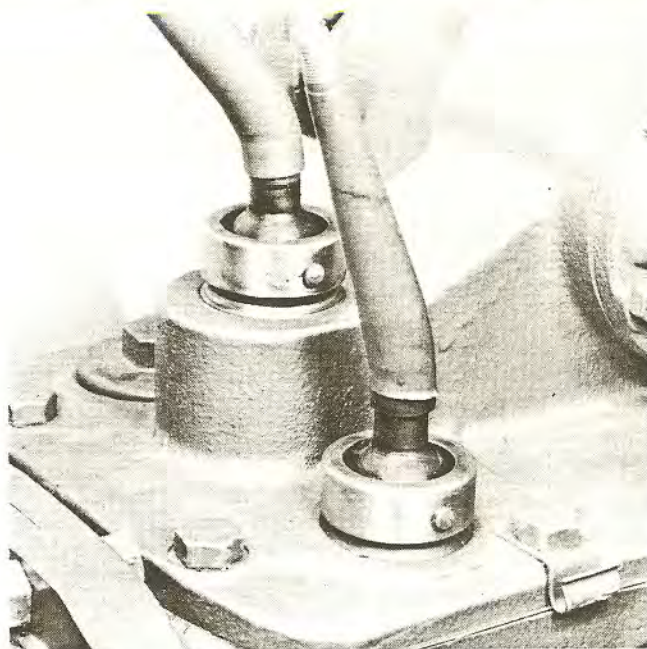
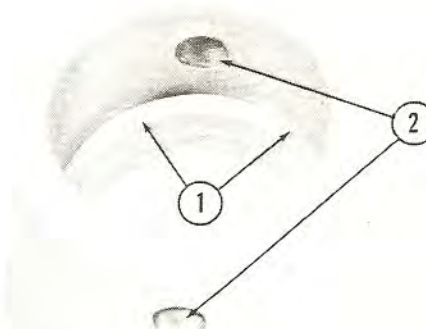

Fig. 5 – Shift Lever Cups Installed
Fig. 6 – Shift Lever Cup – New Type
2. Tap the shift lever cup back into position shown in Fig. 5.
NOTE: Support the housing around the cup opening with a cylindrical sleeve to prevent distorting the housing. Press the cups in until the bottom edge of the groove (No. 1, Fig. 4) is even with the top of the housing as shown in Fig. 5. Make sure that the pin openings (No. 2, Fig. 6) are 90° to the direction of operation of the shift levers.
- c. "O" ring on top of planetary shift lever cup, as shown in Fig. 4. See "Servicing the Steering Gear Housing", Page 3. In newer model tractors, the shift lever cup has been modified, adding the shoulder (No. 1, Fig. 6) so that the "O" ring may be positioned in the cup and then the planetary shift lever installed.